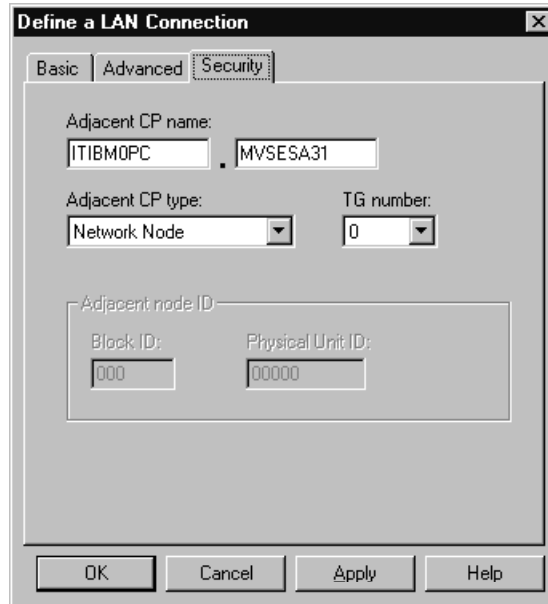

Figure 75. Define a LAN connection window: security page
- 7 On the Security page, use the same values that are shown in Figure 75 for the following fields: